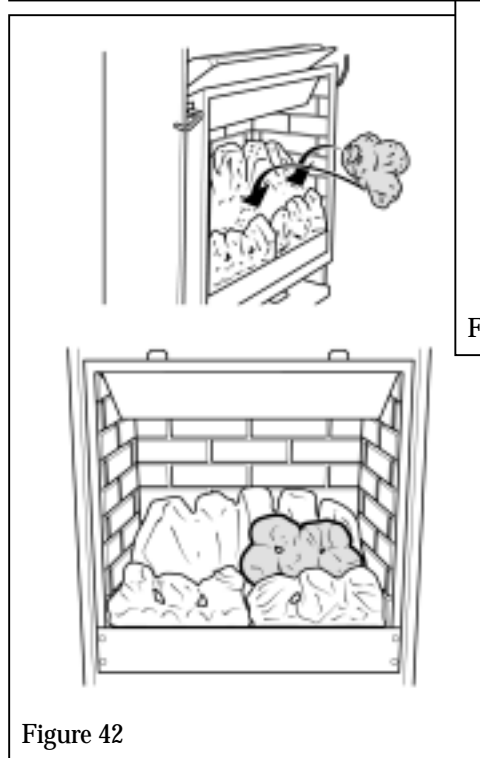

Figure 42
4. The centre right coal has letter "R" embossed underneath. Place this coal behind the front right coal. See figure 42.